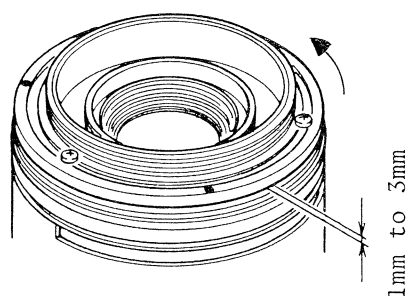

fig.12
- 3) Get the clearance 1mm to 3mm between middle helicoid and outer helicoid by turning the helicoid in direction shown by the arrow as shown in Fig. 12.